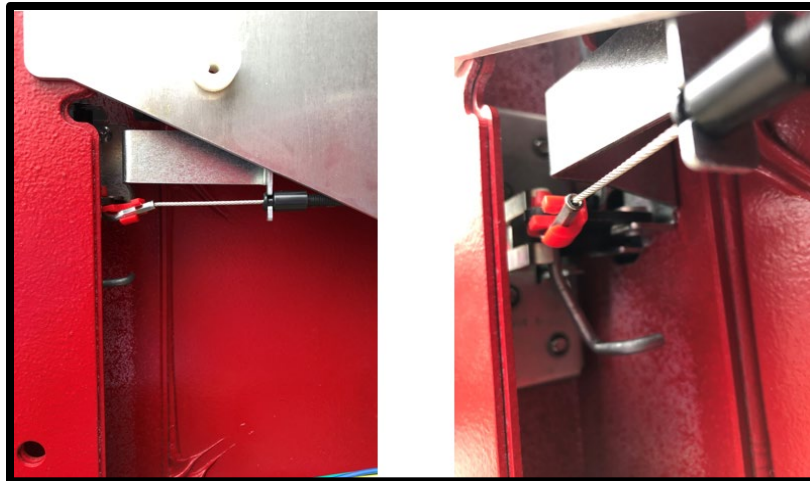

Figure 7
16. Attach cable to retainer and rod lock (Figure 7).